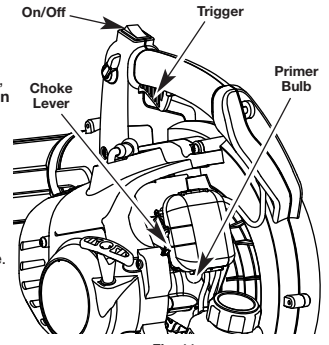

Fig. 11
3. Fully press and release the primer bulb 10 times, slowly. Some amount of fuel should be visible in the primer bulb and fuel lines (Fig. 11). If you can't see fuel in the bulb, press and release the bulb as many times as it takes before you can see fuel in it.
**HOT RESTART:** If the unit is already hot, place the choke lever in Position 3 and pull the starter rope to restart. The unit should be started in idle. Do not squeeze the trigger while starting (Fig. 11).
2. Press the On/Off Stop Control switch in the OFF (O) position and hold until the engine comes to a complete stop (Fig. 11).